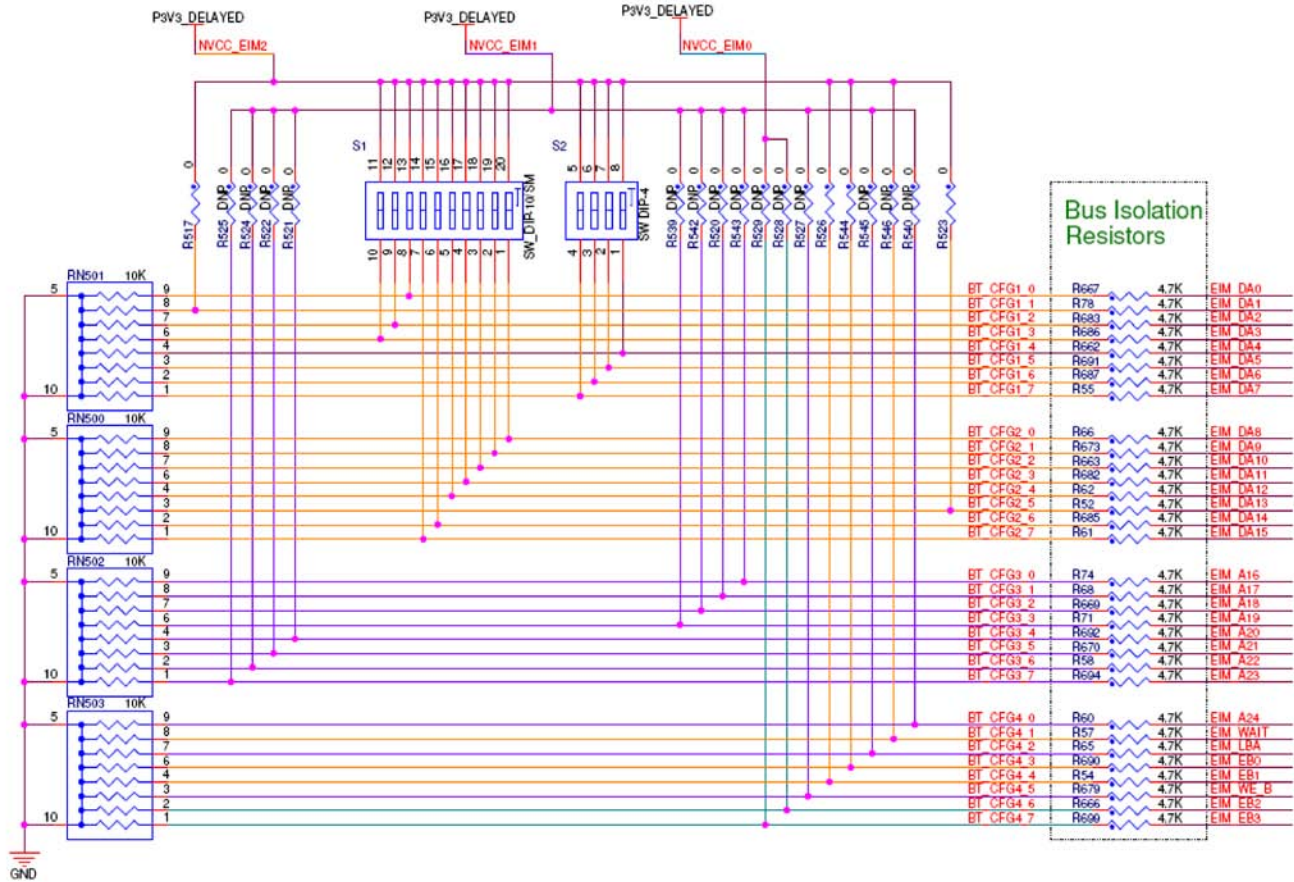

Figure 1-1. Boot configuration for development mode
1. When EIM boot signals are used as the system's EIM signals, other functions, or GPIO outputs after boot, use a passive resistor network to select the desired boot mode for development boards.	Because only resistors are used, EIM bus loads can cause current drain, leading to higher (false) supply current measurements. Each EIM boot signal should connect to a series resistor to isolate the bus from the resistors and/or switchers; see Figure 1-1 . Each configured EIM boot signal sees either a 14.7 k Ω pull-down or a 4.7 k Ω pull-up. For each switch-enabled pulled-up signal, the supply is presented with a 10 k Ω current load.